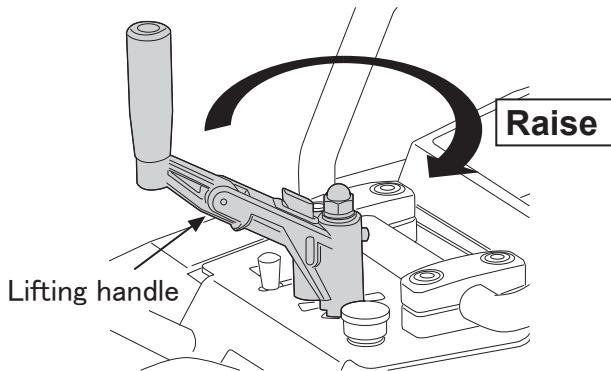

Fig.26
1. When cutting is completed, turn the lift handle slowly counterclockwise to raise the machine body.(Fig. 26)